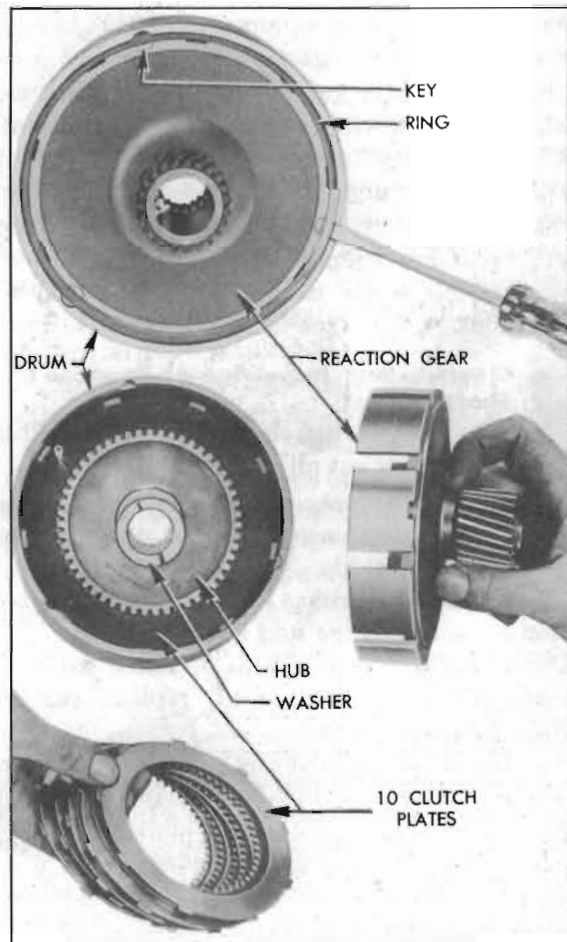

Figure 4-110—Removal of Reaction Gear, Hub, and Plates
1. Remove reaction gear flange retainer ring with screwdriver and remove the 3 flange driving keys with pointed tool. See figure 4-110.
2. Remove the low range reaction gear, thrust washer, clutch hub, and 10 clutch plates from drum. See figure 4-110.